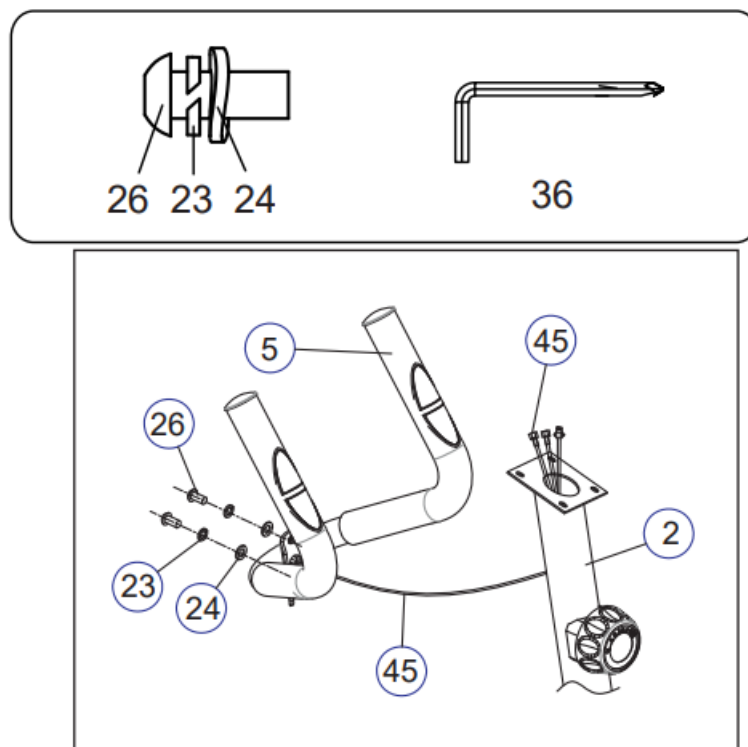

Figure 6
Pass the Heart rate cable(45) through the small hole on the back of the Centre Bar(2), and then pass out from the upper port. Use the Screwdriver (36) applied, M8x20 Inner hex screw (26), $\Phi 8$ Spring washer(23) and $\Phi 8$ Arc washer(24), fasten the Heart rate grip(5) to the Centre Bar(2). (see fig.6)